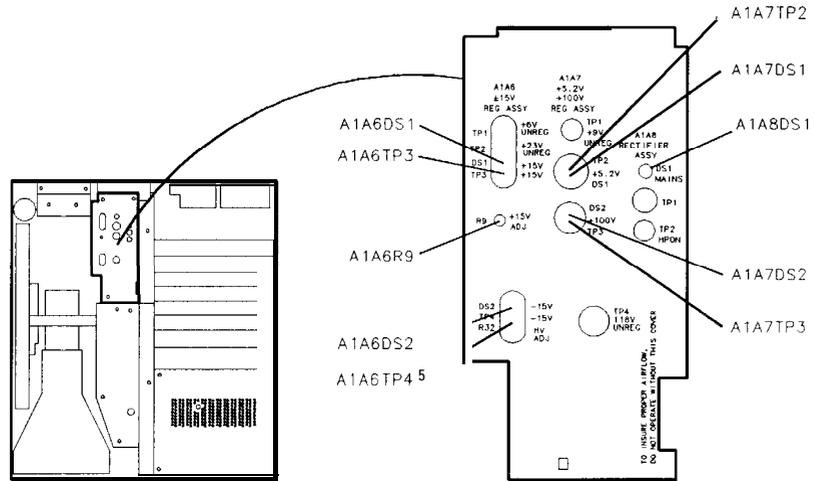
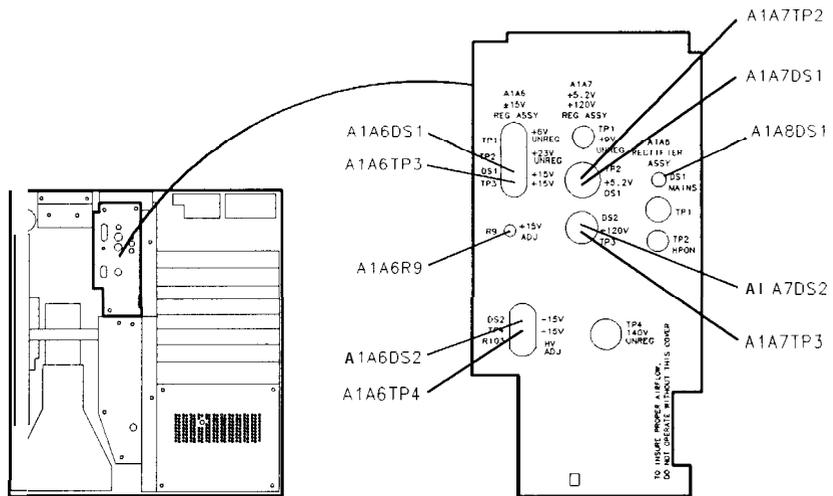

Figure 3-2.
Figure 3-3.
2. Set the LINE switch to ON and press **(IP)**. Mains indicator A1A8DS1 (red LED) in the IF-Display Section should be lit. See Figure 3-2 and Figure 3-3 for the location of A1A8DS1.
Use Figure 3-2 for IF-Display Sections with serial numbers 3001A and below. Use Figure 3-3 for IF-Display Sections with serial numbers 3004A and above.